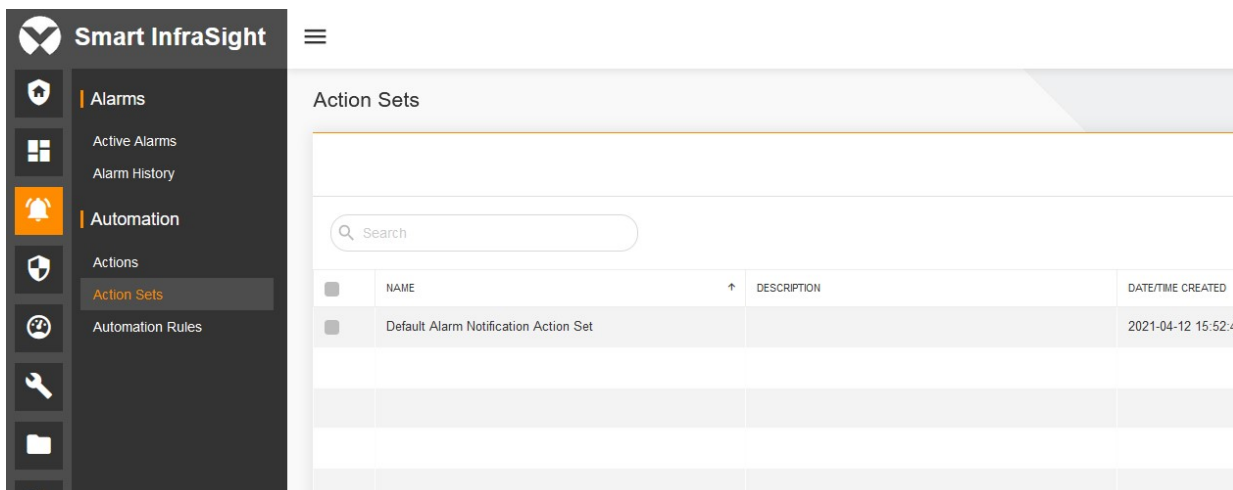

Figure 16-8 Action sets page
1. On Smart InfraSight, choose **Alarms > Automation > Action Sets**. The **Action Sets** page is displayed by default, as shown in Figure 16-8.